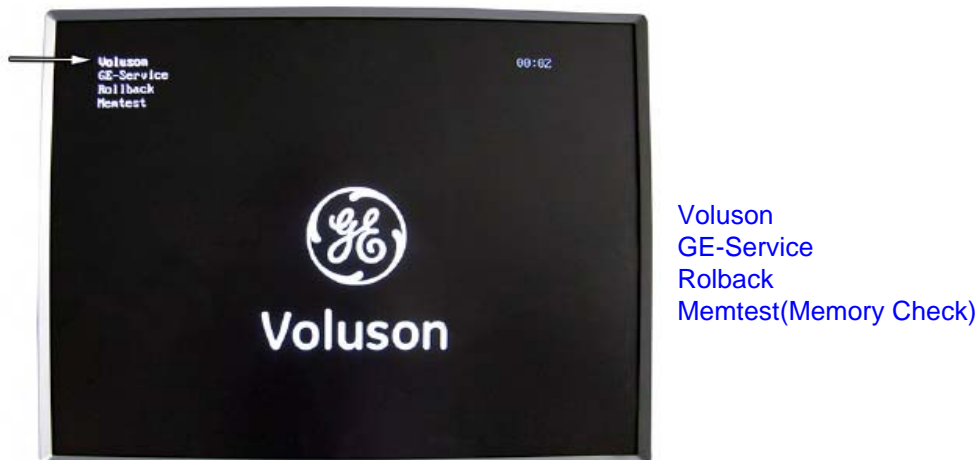

Figure 5-34 Boot screen
- 2.) As soon as the "Boot Screen" appears (see: Figure 5-34 above), press the **PG DN** [Arrow down] key on the keyboard until the **GE Service** item is highlighted, then press **ENTER**.
- 2.) As soon as the "Boot Screen" appears (see: Figure 5-34 on page 5-61), press the PG DN [↓ Arrow down] key on the keyboard until the **Rollback** item is highlighted, then press ENTER.
- 2.) As soon as the “Boot Screen” appears (see: Figure 5-34 on page 5-61), press the **PG DN** [↓ Arrow down] key on the keyboard until the **Rollback** item is highlighted, then press **ENTER**.